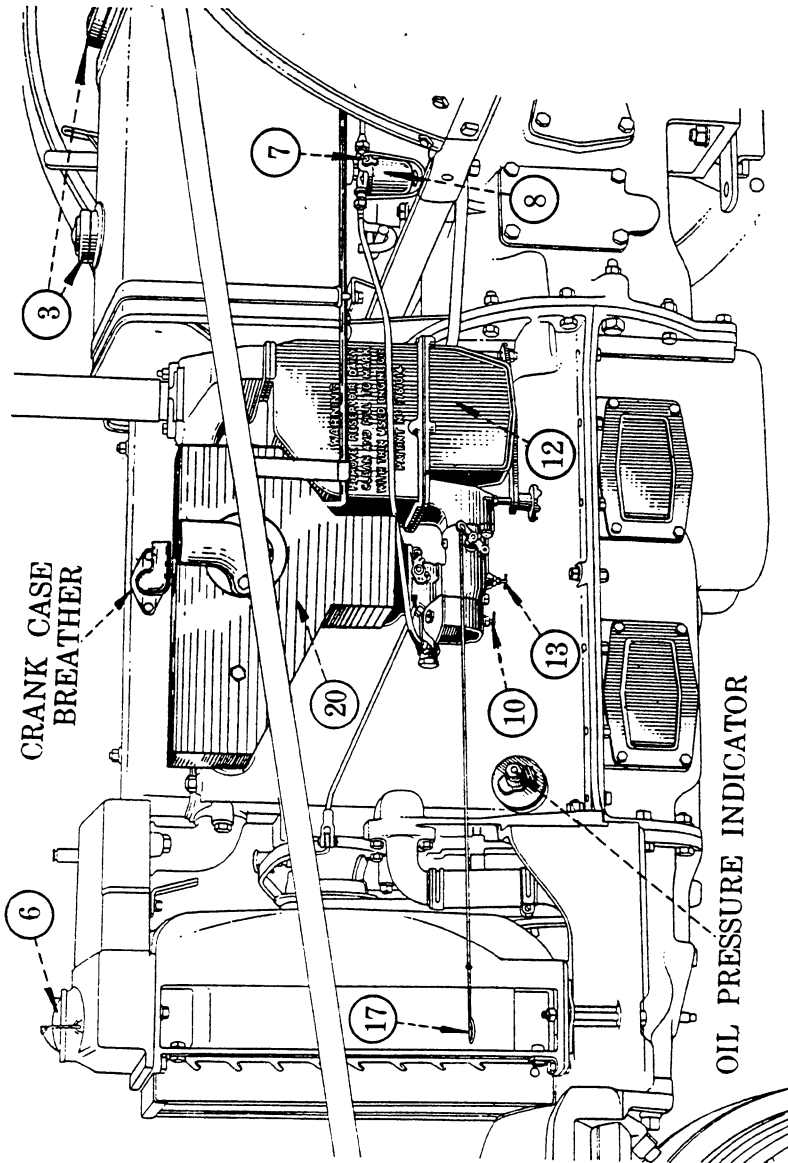

Fig. 5. L. H. Side of Case "CC" Tractor
3. Fig. 5. Make sure that air vent holes in caps of fuel tanks are open.